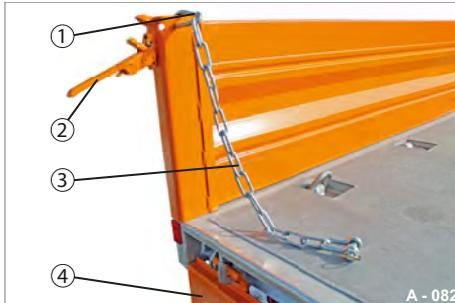

Fig. 83 Rear platform gate, open
- ▶ Unfasten the locks of the (Fig. 83/2) rear platform gate (Fig. 83/4).